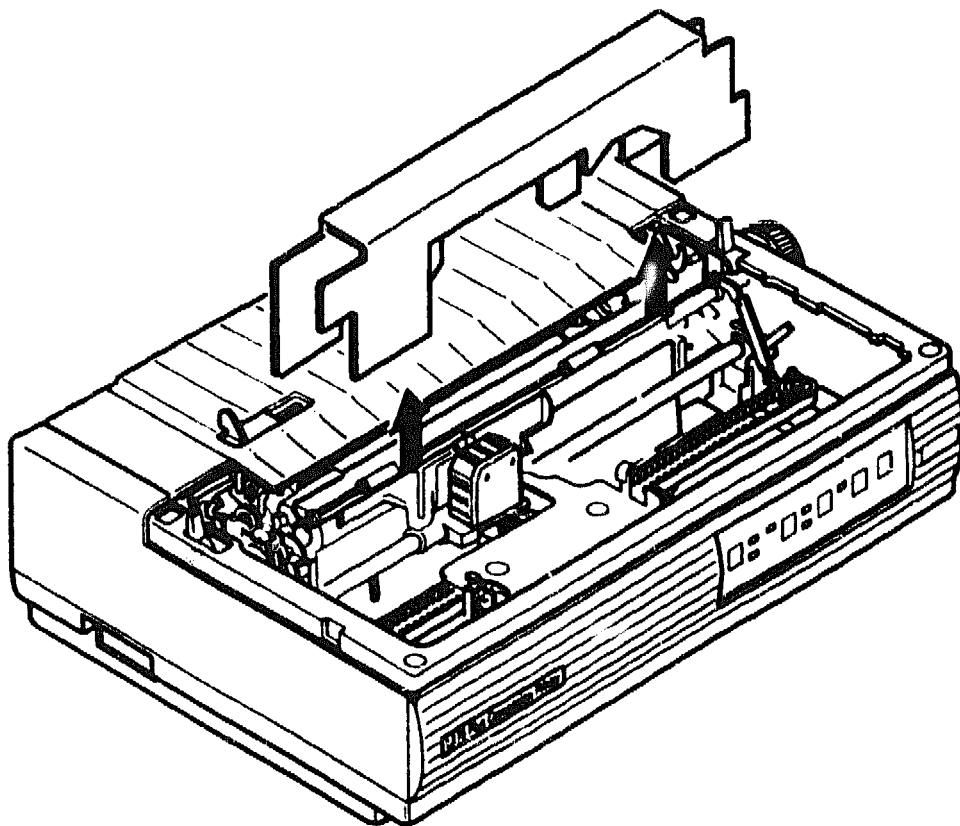

Figure 4-1 Removing the Transit Packing
4. Remove the cardboard transit packing. See Figure 4-1.